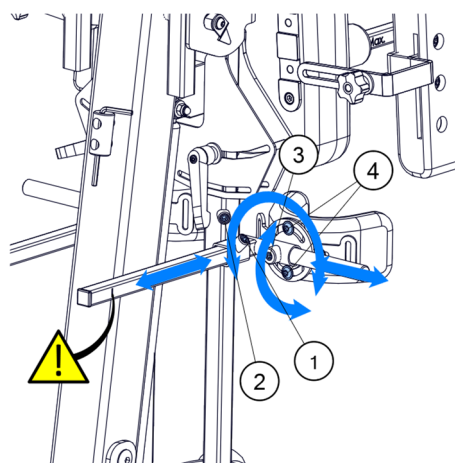

Fig. 12
The position of knee support (Fig. 12) can be adjusted by loosening the screw (2) and then by shifting the handle of the knee support along the vertical rail. Retightening the screw (2) blocks the position of the support. Adjustment of the depth of the knee support can be done by loosening the screw (1) and then finding the proper location by shifting the arm of the knee support. We block any possibility of further movement by tightening the screw (1). It is worth remembering not to extend the arm of the knee support outside the marker indicating the position of the maximal extension. Precise setting of the width and angle of the knee support may be adjusted after loosening the screw (3) and (4). When the whole regulation process is finished, we tighten the screw and by the same we block the possibility of any movement, as far as knee support is concerned.